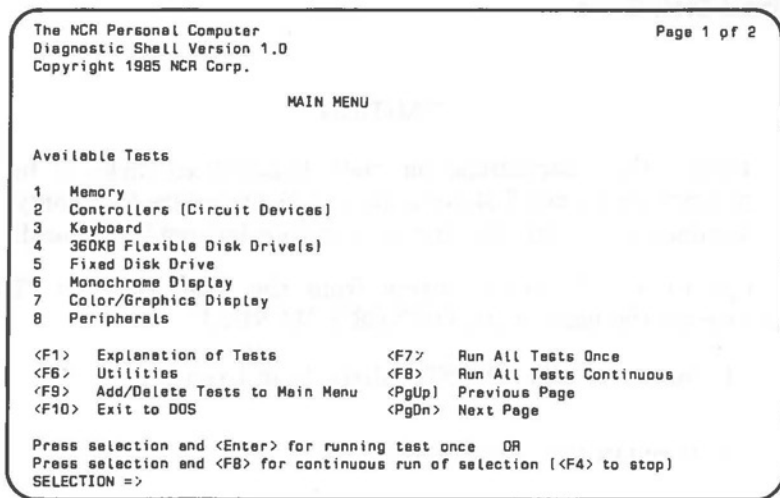

Figure 4-1 Main Menu Screen
1. From the Main Menu choose the Utilities selection <F6> (see Figure 4-1).